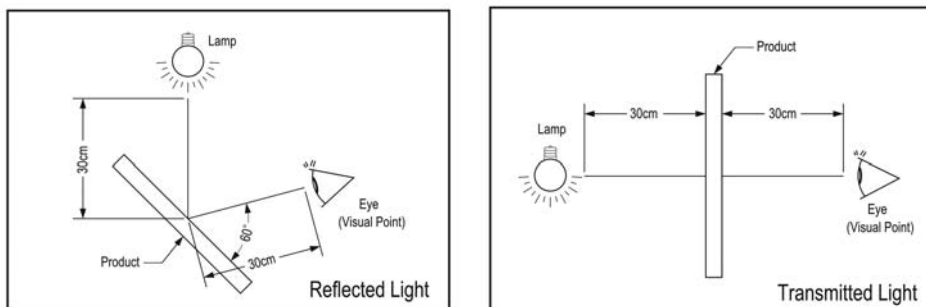

Figure 11-1
(1) The flaws and impurities are allowed outside viewing area except for those affecting electrical functions.
(2) The inspection was performed with one 17W fluorescent lamp lighting from back or side. The panel was placed 30cm away from eyes. (Figure 11-1)